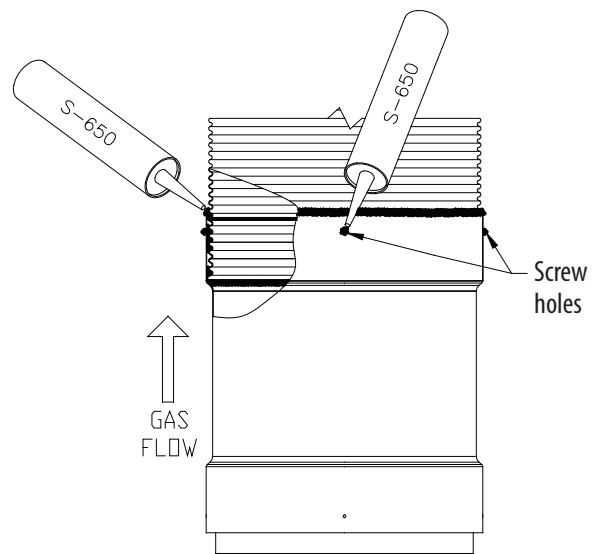

Figure 20- Secure Seal Flex S-650 caulking
2.3. Add a bead of the S-650 red caulking all around the outer junction of the adapter and the flexible liner to make sure everything is well sealed. Also add over the screw holes (Figure 20).